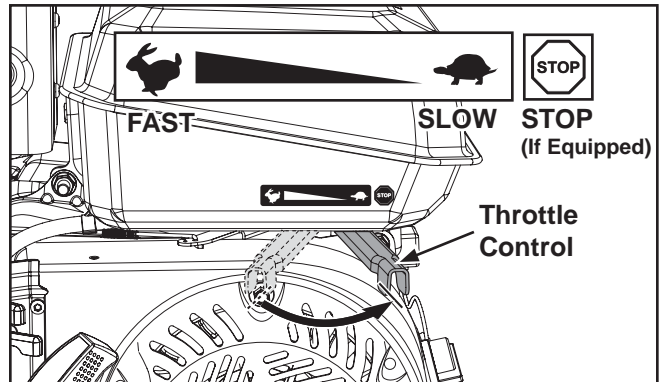

Figure 11. "Slow" Position of Throttle Control.
2. Move the throttle control to the "SLOW" or "LOW" idle position. Allow the engine to run at idle for 30-60 seconds. See Figure 11.